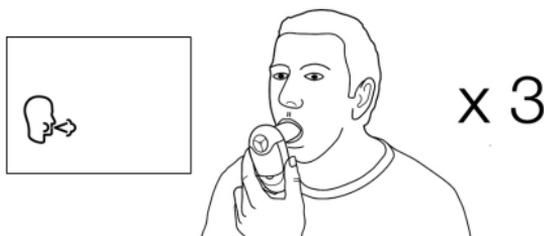

Figure 3. Holding device during test.
5. Instruct subject to hold their head high and hold the Vitalograph COPD-6 BT ready in front of the mouth, see Figure 3.